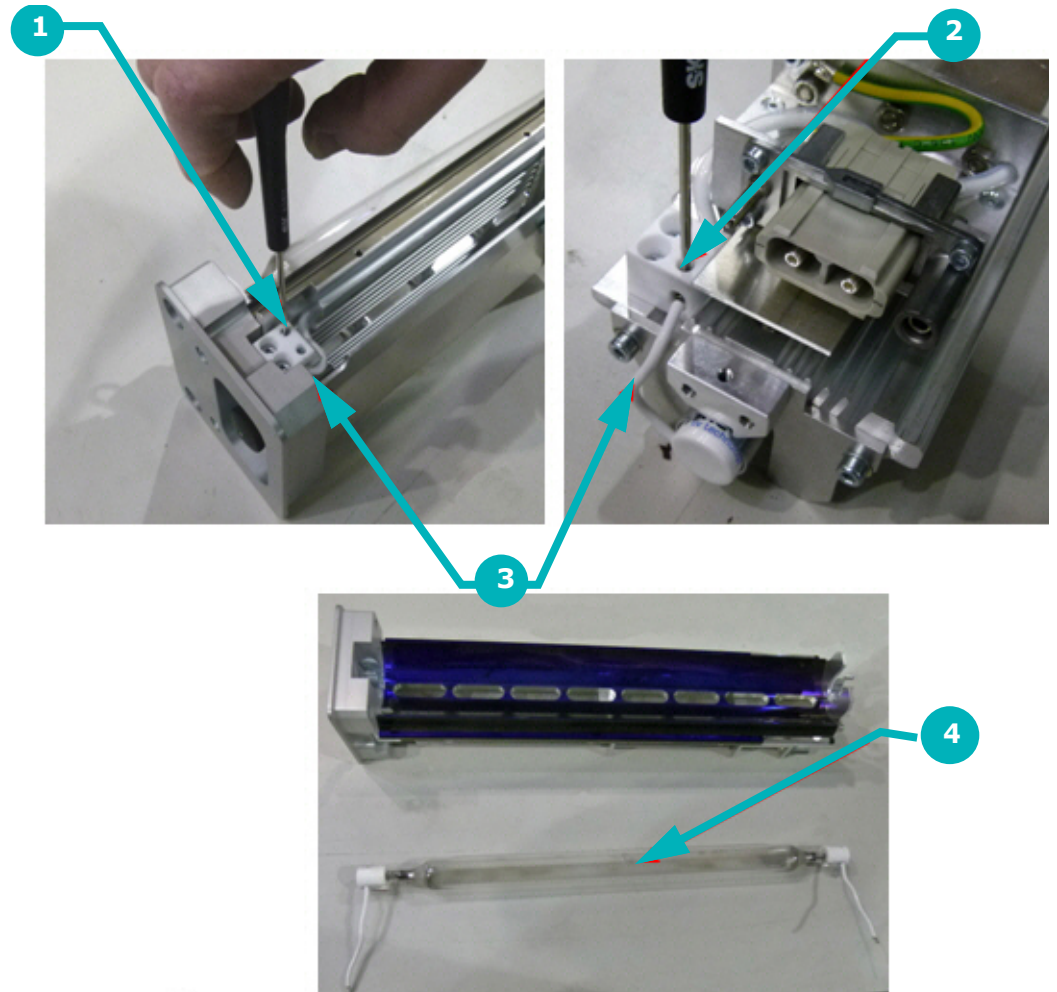

Figure 2-68: Removing the lamp bulb
- E. Loosen inner screw on the electrical block, Figure 2-68, item 1, and pull wire (item 3) out of block.
- F. At opposite end, loosen the screw Figure 2-68, item 2, and pull wire out.